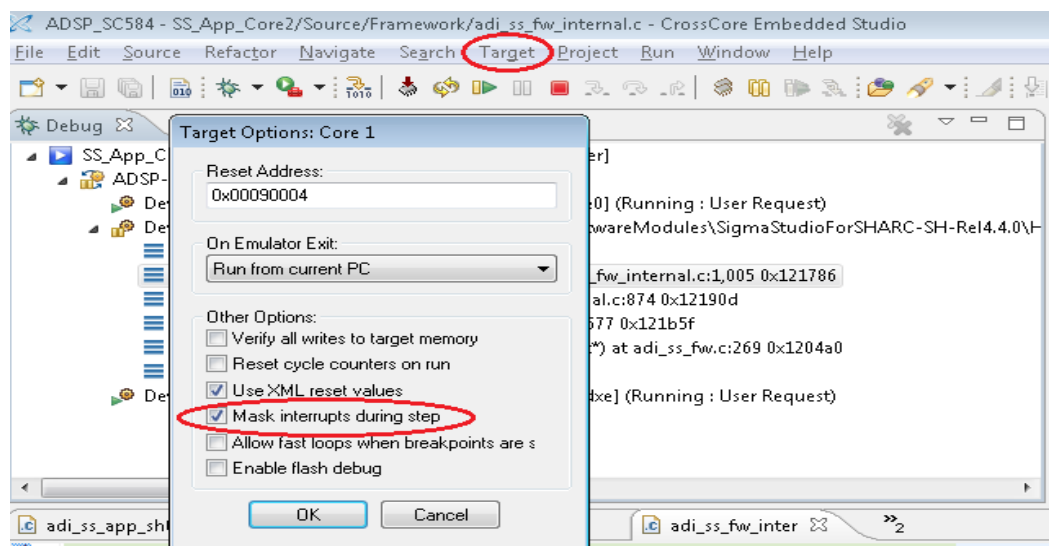

Figure 36: Mask interrupt during step selection
25. Select “Mask interrupts during step” in target option and press “OK” as shown in Figure 36.